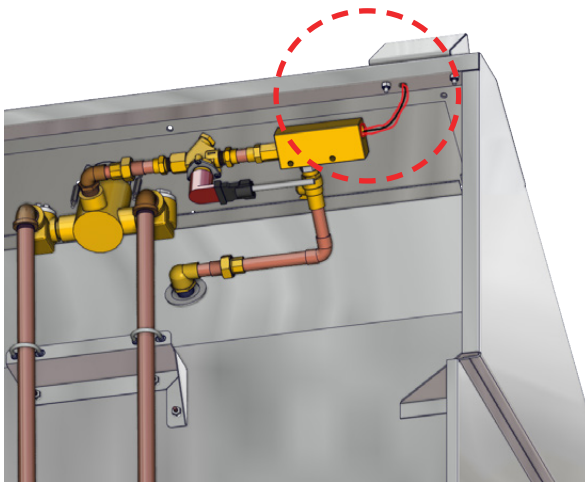

Fig. 32: Thread wires thru grommet hole
4. Thread the three flow-switch timer wires through the drilled hole on top of the sink (Fig. 32 - circled in red).